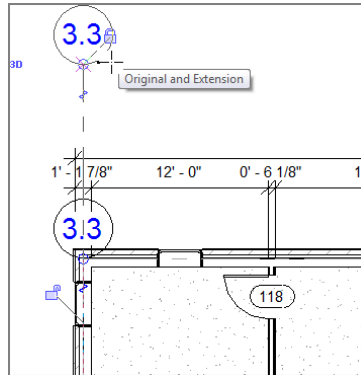

FIGURE 8.15: Dragging the new bubble out of the wall
5. When you pick the wall, the grid is added, but it doesn't have the name or number you want. You'll change that. But first, pick the round blue grip and drag the bubble up past the dimensions, as shown in Figure 8.15.